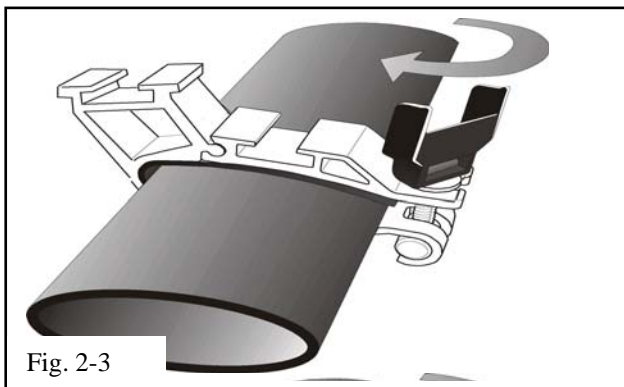

Fig. 2-3
- (b) Fasten each Adaptor Assembly by spinning the plastic lever and folding it down. (Figs. 2-3 & 2-4)
- (1) Tighten the lever by hand until it is snug and the Adaptor Assembly will not slide by pushing and pulling by hand.